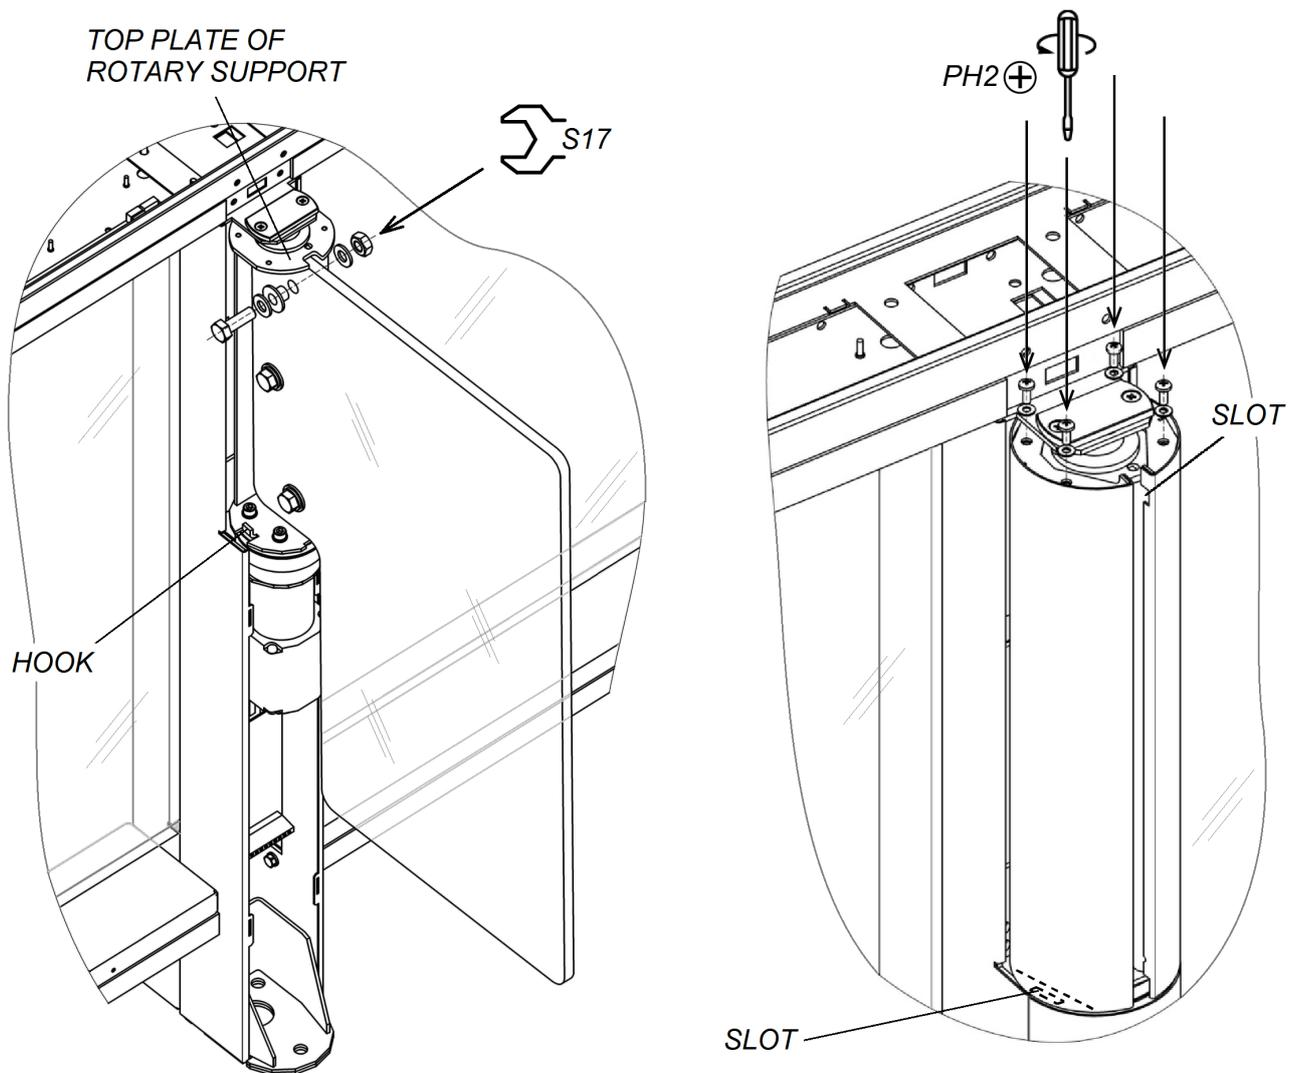

Figure 23. Swing panel and its cover plate
22. Unpack glass swing panels (1) and mount them (Fig. 23, Sect. 8.9.3).
23. Mount swing panel cover plates (4) from the installation kit (Fig. 23, Sect. 8.9.4).
Two people shall install and remove the swing panels. The swing panel is fixed to the rotary support in three places with M10×30 bolts, washers 10, plastic bushings, and M10 nuts (Fig. 23). Use S17 horn-type wrenches.
2. Mount one of the cover plate components on the rotary support. To do this, mount the cover plate on the upper plate of the rotary support through the slots at the top of the cover plate. After that, shift the cover plate down to the end, inserting the cover plate's lower slot on a hook located at the bottom of the rotary support (Fig. 23).